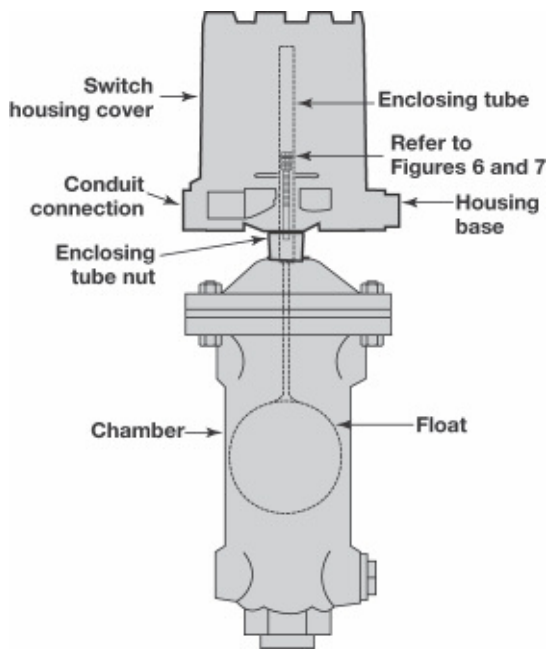

Figure 10
4. Disconnect power supply wires from switch mechanism. Pull wires out of conduit connection opening in housing base. Refer to Figure 10 on page 10.
8. Loosen enclosing tube nut with a  $\frac{1}{16}$ " wrench. Unscrew enclosing tube counterclockwise (switch and housing base will rotate also), until it is free. Refer to Figure 10 on page 10.